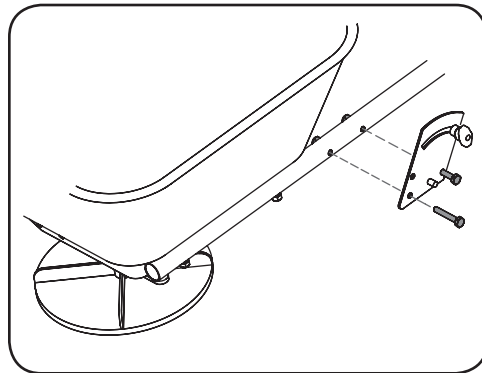

Figure 2-12
- Use two M6 x 40 bolts and locknuts to attach the control plate to the right side of the frame. See Figure 2-12.